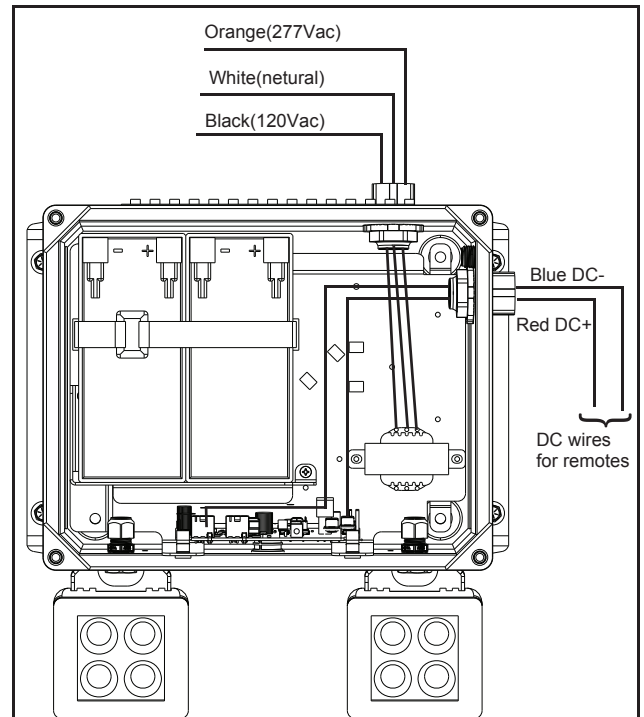

Figure 3
- a. Standard unit: connect the transformer primary wires to the utility: white wire to neutral; black (120Vac) or orange (277Vac) to line voltage (See figure 3).
- Remote emergency lighting (option): connect the remote DC wires to the terminals of lamp circuit (Figure 3).